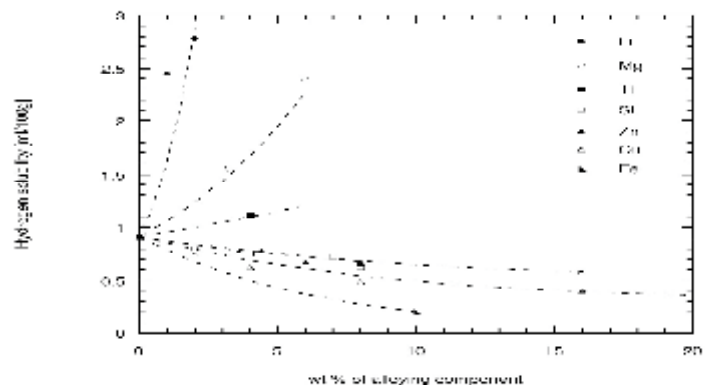

Figure 3
- III. **Alloying Elements:** Individual alloying elements have their effects on the Solubility of Hydrogen in Aluminium. Some elements like Magnesium, Strontium and Titanium increase the solubility, while Silicon, Iron, Copper and Zinc reduce it. (Figure 3)